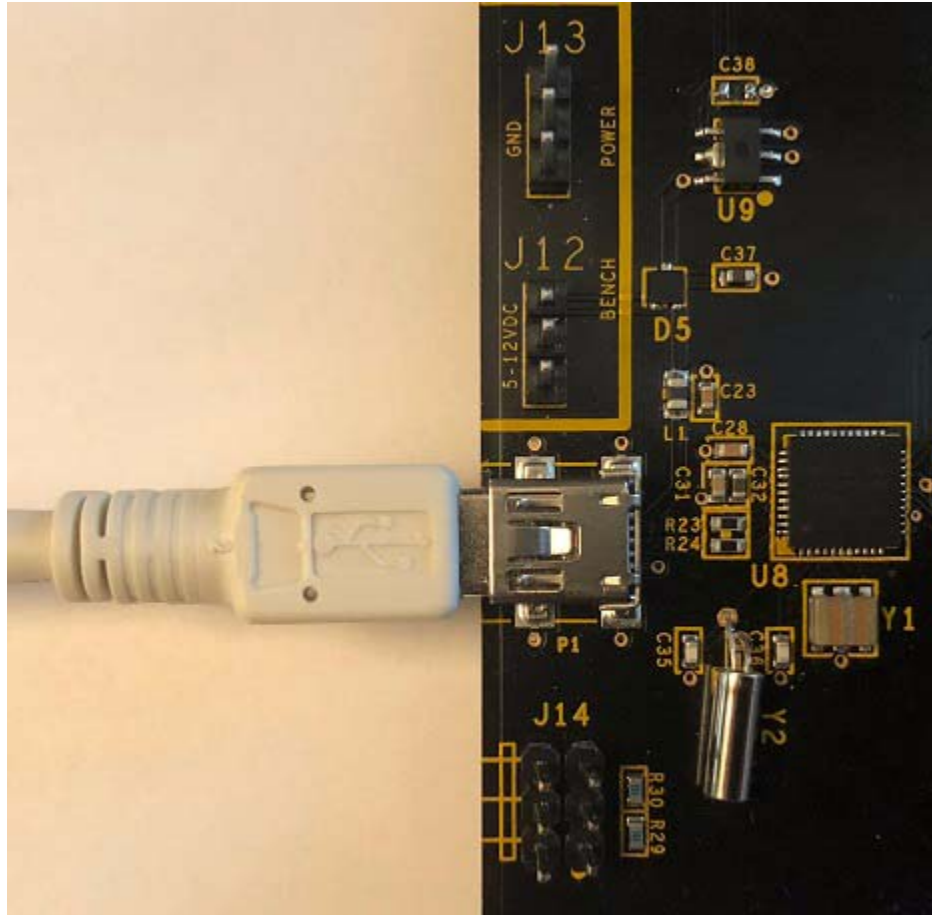

Figure 15. Connecting Port P1 to a USB Port on Development PC
5. With the USB A (male) to Mini-B cable, connect Port P1 on the ZMOTIONL300 Development Board to a USB port on the development PC to apply power and provide a serial interface for the Development Board. See Figure 15.